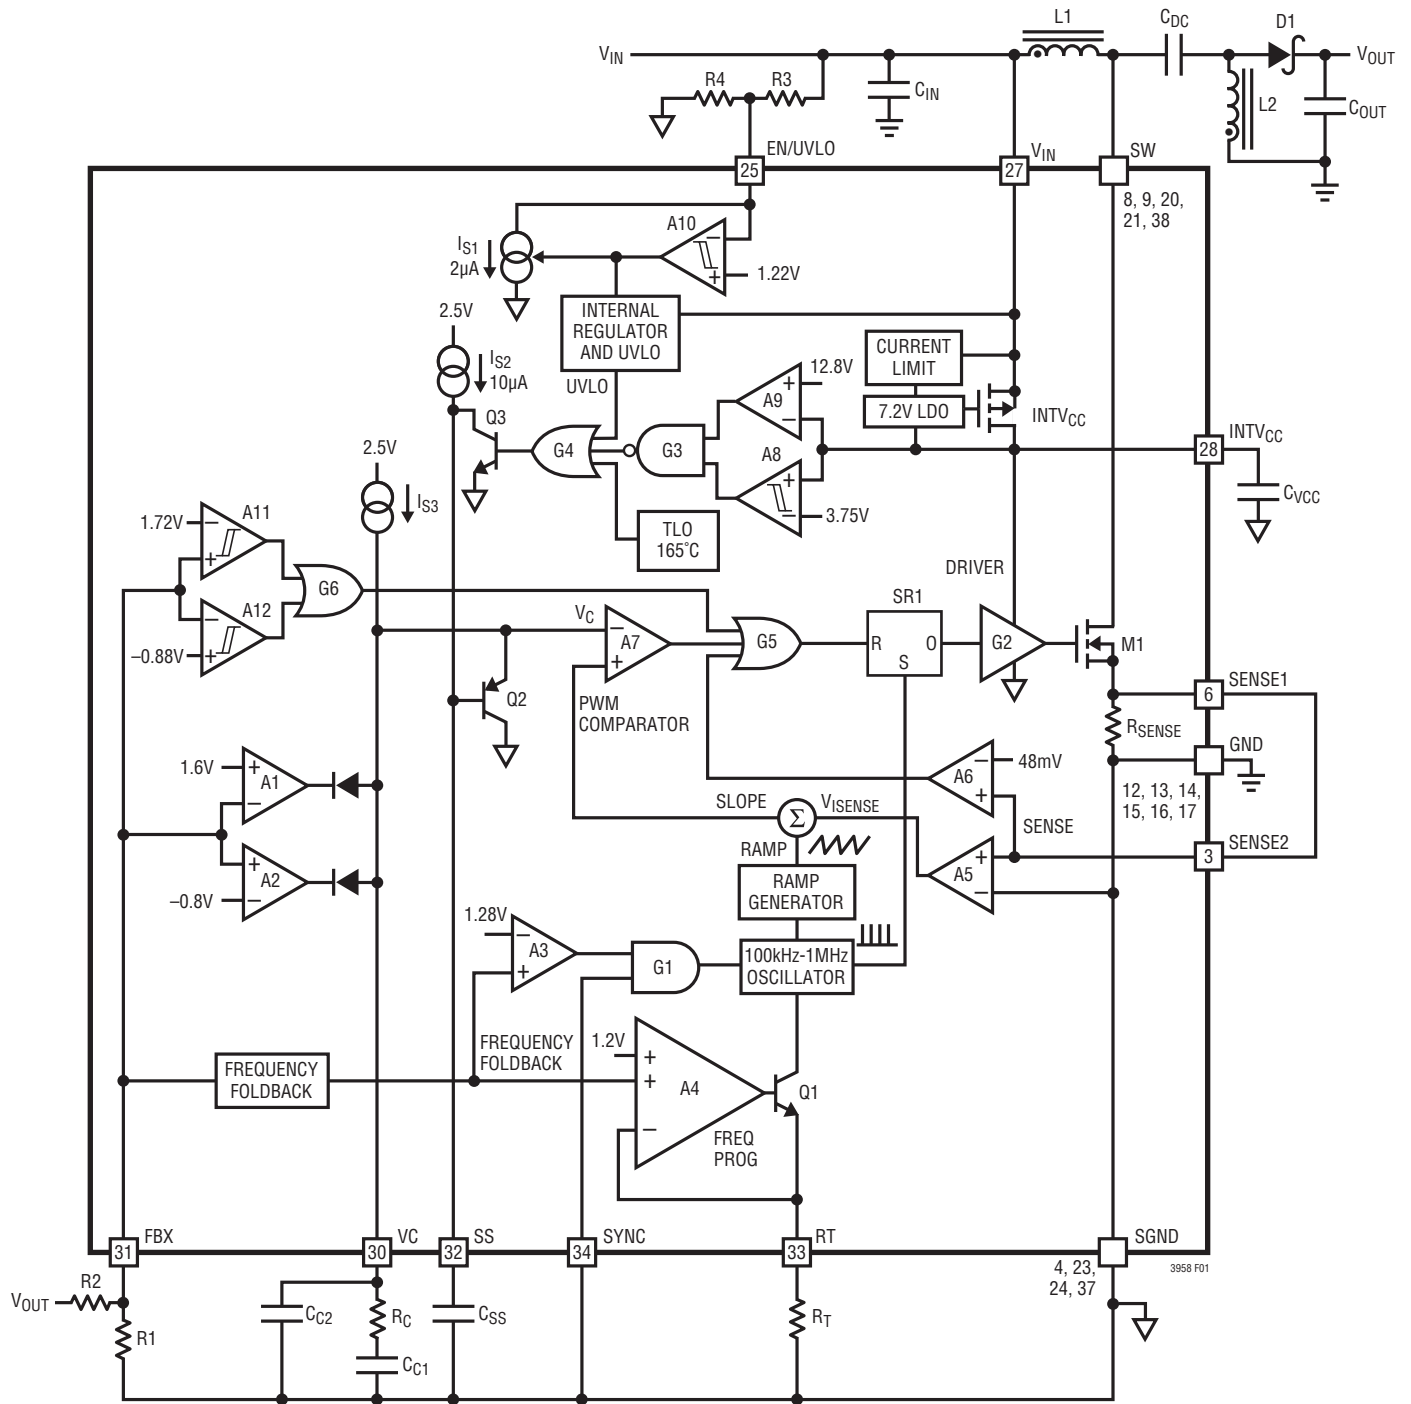

Figure 1. LT3958 Block Diagram Working as a SEPIC Converter
The LT3958 uses a fixed frequency, current mode control scheme to provide excellent line and load regulation. Operation can be best understood by referring to the Block Diagram in Figure 1.
The LT3958 is capable of generating either positive or negative output voltage with a single FBX pin. It can be configured as a boost, flyback or SEPIC converter to generate positive output voltage, or as an inverting converter to generate negative output voltage. When configured as a SEPIC converter, as shown in Figure 1, the FBX pin is pulled up to the internal bias voltage of 1.6V by a voltage divider (R1 and R2) connected from  $V_{OUT}$  to SGND. Comparator A2 becomes inactive and comparator A1 performs the inverting amplification from FBX to VC. When the LT3958 is in an inverting configuration, the FBX pin is pulled down to -0.8V by a voltage divider connected from  $V_{OUT}$  to SGND. Comparator A1 becomes inactive and comparator A2 performs the noninverting amplification from FBX to VC.
The purpose of this current is to allow the user to program the rising hysteresis. The Block Diagram of the comparator and the external resistors is shown in Figure 1. The typical falling threshold voltage and rising threshold voltage can be calculated by the following equations:
An internal, low dropout (LDO) voltage regulator produces the 7.2V INTVCC supply which powers the gate driver, as shown in Figure 1. The LT3958 contains an undervoltage lockout comparator A8 and an overvoltage lockout comparator A9 for the INTVCC supply. The INTVCC undervoltage (UV) threshold is 3.75V (typical), with 0.15V hysteresis, to ensure that the internal MOSFET has sufficient gate drive voltage before turning on. The logic circuitry within the LT3958 is also powered from the internal INTVCC supply.
The choice of operating frequency may be determined by on-chip power dissipation (a low switching frequency may be required to ensure IC junction temperature does not exceed 125°C), otherwise it is a trade-off between efficiency and component size. Low frequency operation improves efficiency by reducing gate drive current and MOSFET and diode switching losses. However, lower frequency operation requires a physically larger inductor. Switching frequency also has implications for loop compensation. The LT3958 uses a constant-frequency architecture that can be programmed over a 100kHz to 1000kHz range with a single external resistor from the RT pin to ground, as shown in Figure 1. The RT pin must have an external resistor to SGND for proper operation of the LT3958. A table for selecting the value of  $R_T$  for a given operating frequency is shown in Table 1.
The output voltage  $V_{OUT}$  is set by a resistor divider, as shown in Figure 1. The positive and negative  $V_{OUT}$  are set by the following equations:
The LT3958 addresses this mechanism with the SS pin. As shown in Figure 1, the SS pin reduces the power MOSFET current by pulling down the VC pin through Q2. In this way the SS allows the output capacitor to charge gradually toward its final value while limiting the start-up peak currents. The typical start-up waveforms are shown in the Typical Performance Characteristics section. The inductor current  $I_L$  slewing rate is limited by the soft-start function.
Loop compensation determines the stability and transient performance. The LT3958 uses current mode control to regulate the output which simplifies loop compensation. The optimum values depend on the converter topology, the component values and the operating conditions (including the input voltage, load current, etc.). To compensate the feedback loop of the LT3958, a series resistor-capacitor network is usually connected from the VC pin to SGND. Figure 1 shows the typical VC compensation network. For most applications, the capacitor should be in the range of 470pF to 22nF, and the resistor should be in the range of 5k to 50k. A small capacitor is often connected in parallel with the RC compensation network to attenuate the VC voltage ripple induced from the output voltage ripple through the internal error amplifier. The parallel capacitor usually ranges in value from 10pF to 100pF. A practical approach to design the compensation network is to start with one of the circuits in this data sheet that is similar to your application, and tune the compensation network to optimize the performance. Stability should then be checked across all operating conditions, including load current, input voltage and temperature. Application Note 76 is a good reference.